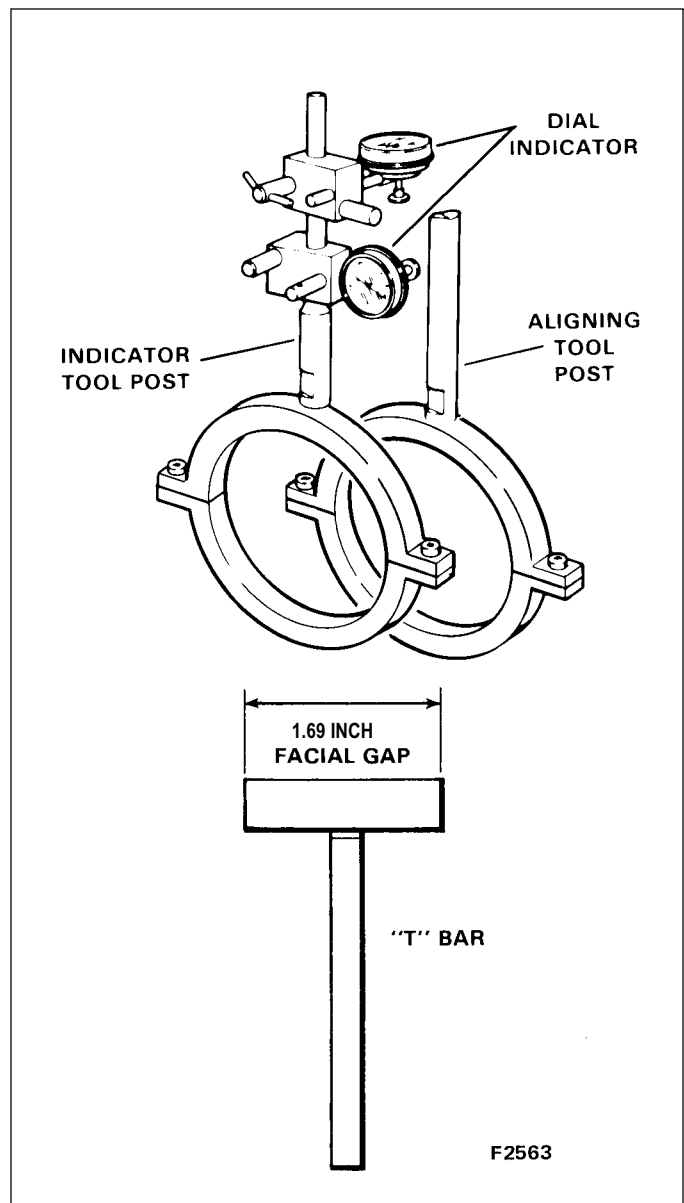
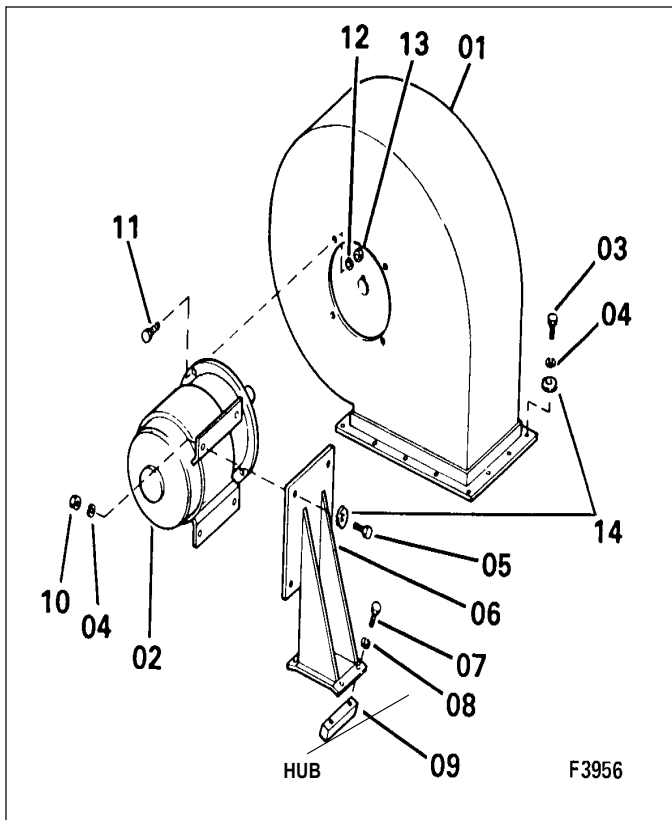

Figure 4-5. Shaft Alignment Tools
Figure 4-8. Alignment Indicator Installation
- A. Install aligning clamp posts and dial indicators (Figure 4-5) on the outside diameters of the motor and first reduction hubs as shown on Figure 4-8.